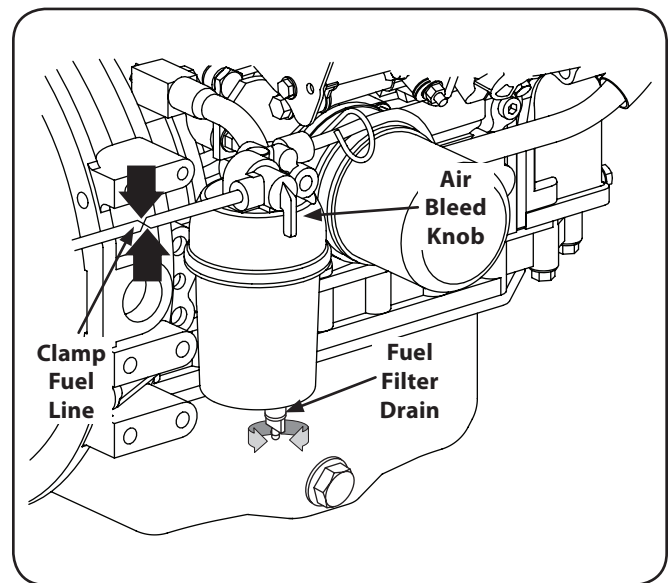

Figure 6-7
2. Turn the filter drain counterclockwise to open. Allow the water at the bottom of the filter to drain until only pure diesel fuel drains from the valve. See Fig. 6-7.
4. Slowly turn the air bleed knob counterclockwise until fuel begins to seeps out around the bleed knob. Turn air bleed knob clockwise to close. Refer to Fig. 6-7.
2. Clamp the fuel line just to the rear of the fuel filter. See Fig. 6-7.